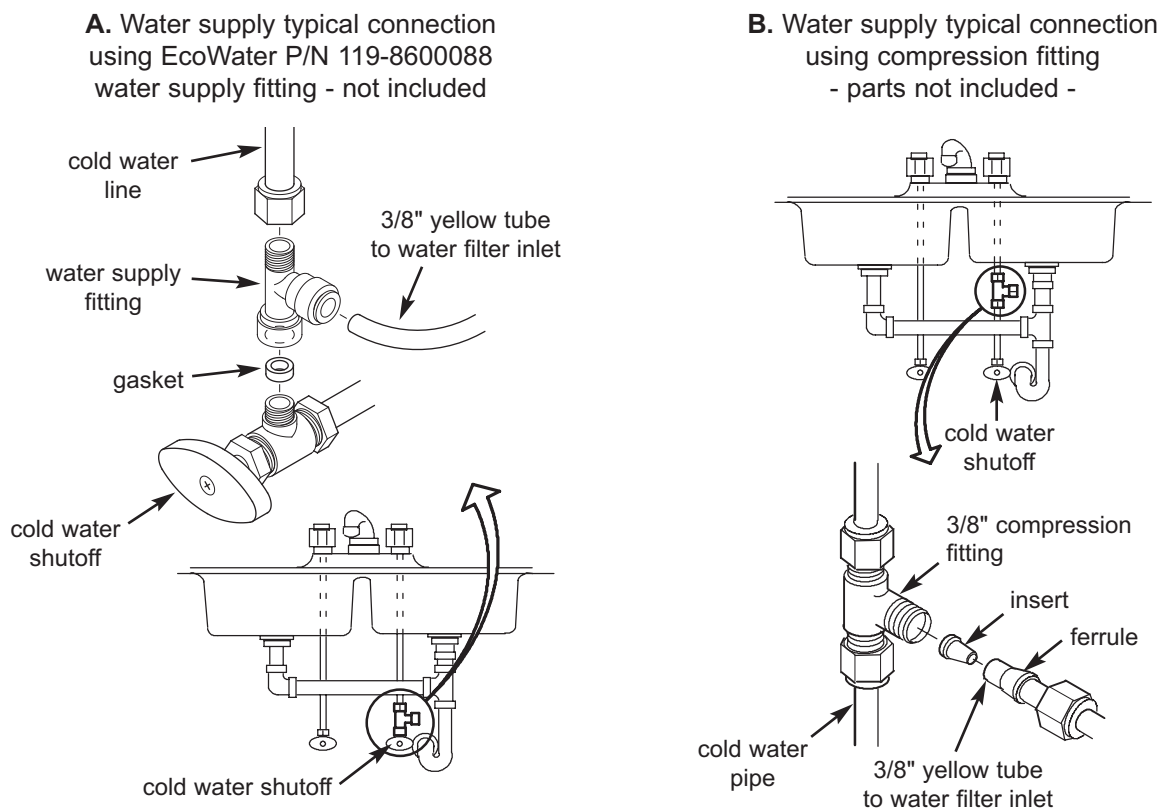

Figure 2
2. **Check and comply with local plumbing codes** as you plan, then install a feed water supply fitting to the sink's cold water pipe. The fitting must provide a leak-tight connection to the water filter's 3/8" OD tubing. See Figure 2, below, for two typical installations (water supply fitting/parts not included). You can use solder or threaded fittings. If threaded fittings are used, be sure to use pipe joint compound or Teflon tape on outside threads.